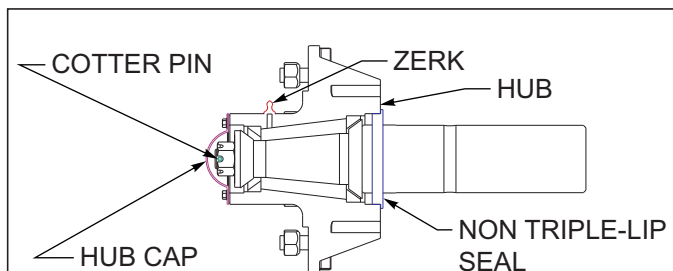

Figure 4-19: Non-Triple Lip-Seal
12. Through the zerk, give 6-8 more pumps of grease. It is not necessary to purge grease through a new seal, as they are filled **See Figure 4-19.**